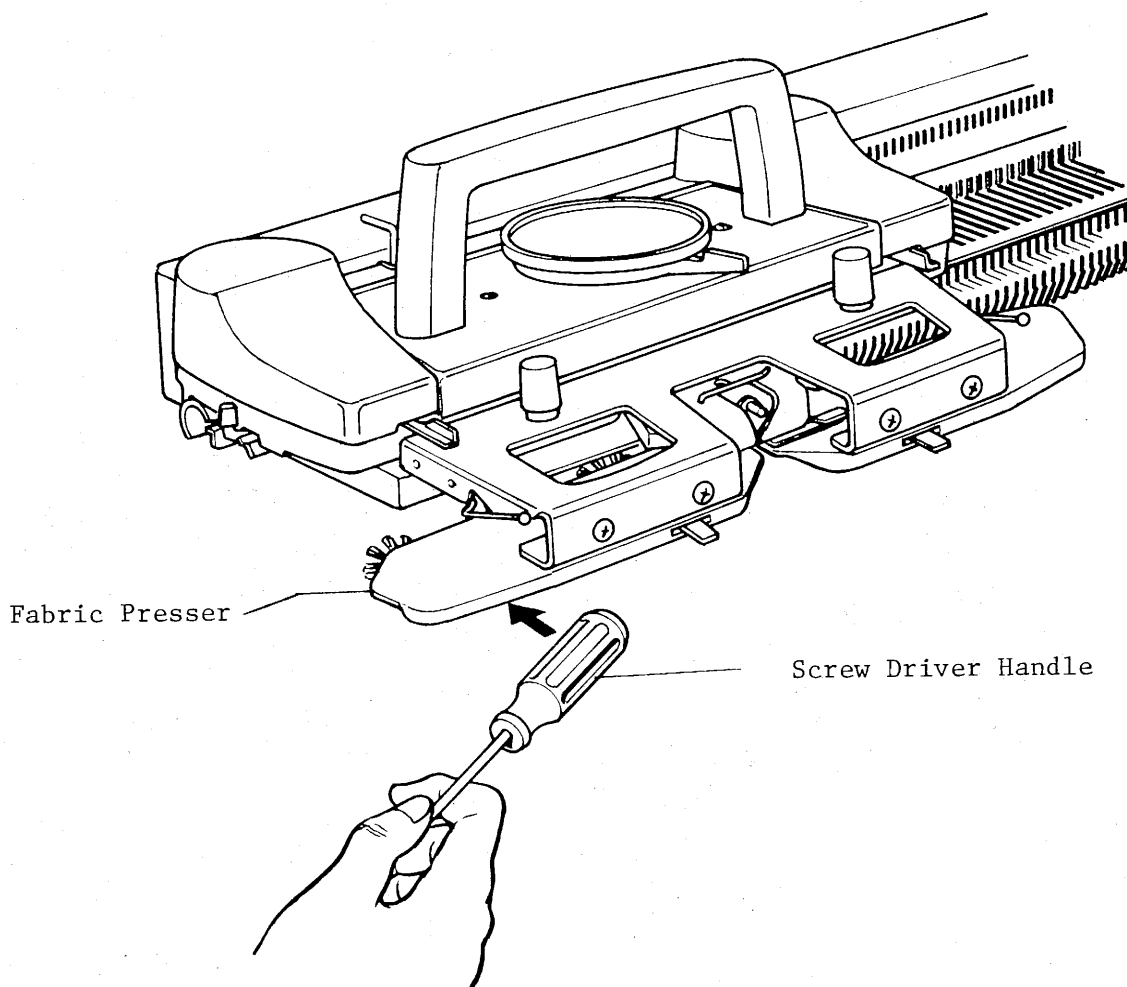

Fig. 103
- (2) Adjust the P.S. clearance to be 1.5 m/m to 2.0 m/m while tapping Fabric Presser with a screw driver handle as shown in Fig. 103. After adjustment is over, fasten those screws for Fabric Presser.